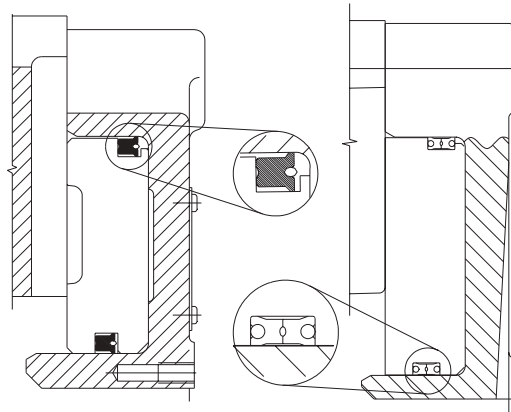

Fig. 14
- 4.4.10 Install the new seals into the piston grooves, noting the orientation of the seal lips, per Figure 14.